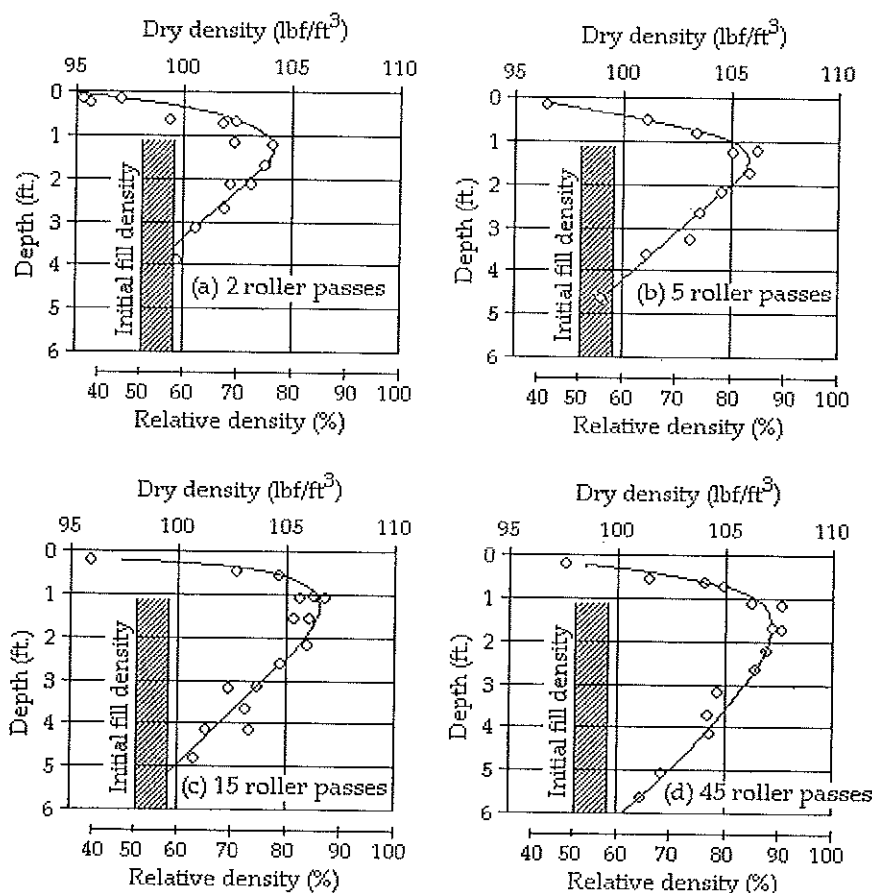

Figure B3: Density-depth relationship for a 5670kg roller operating at 27.5Hz for a 240cm lift height (after D'Appolonia, et al., 1969).
3. Figure B3 compares the state of compaction achieved with depth, during a trial compaction of a soil subjected to 2, 5, 15 and 45 roller passes. Optimum Moisture Content ranges between 12 – 15%